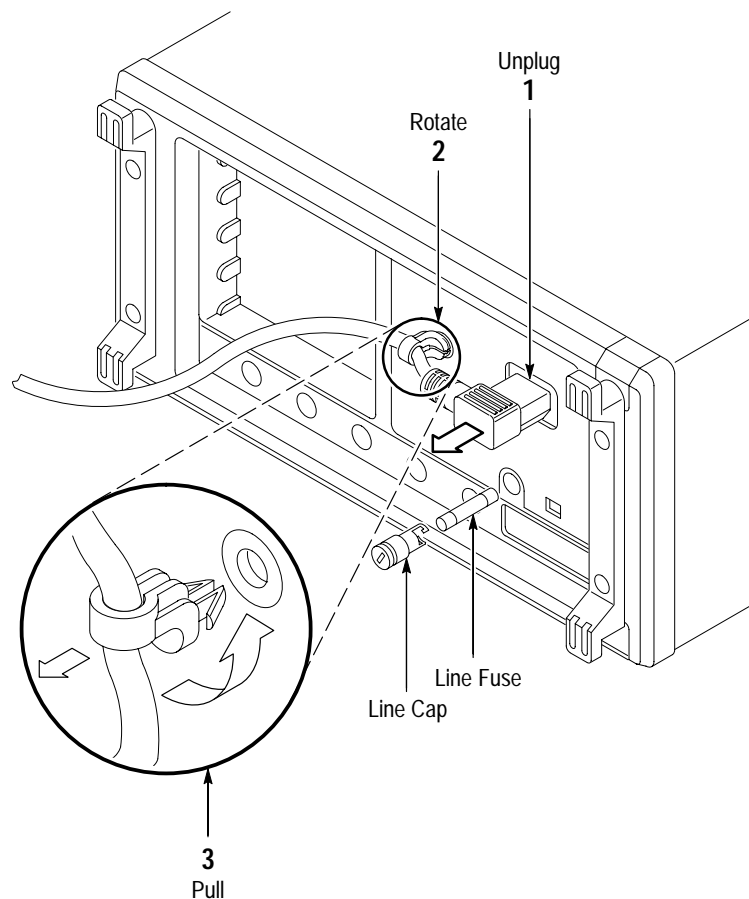

Figure 6-6: Line Fuse and Line Cord Removal
- a. Find the line cord on the rear cover. (See Figure 6-6.)